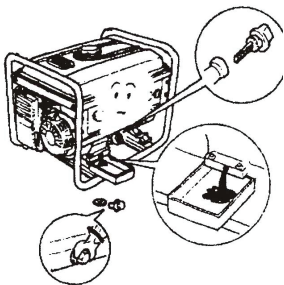

Figure 37
2.1 Unscrew and take out the dipstick (Figure 37)